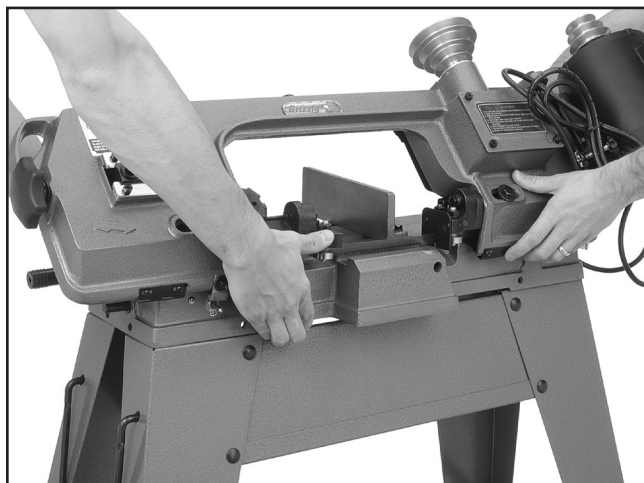

Figure 10. Setting the bandsaw.
1. With the help of an assistant, set the bandsaw onto the stand (see **Figure 10**).